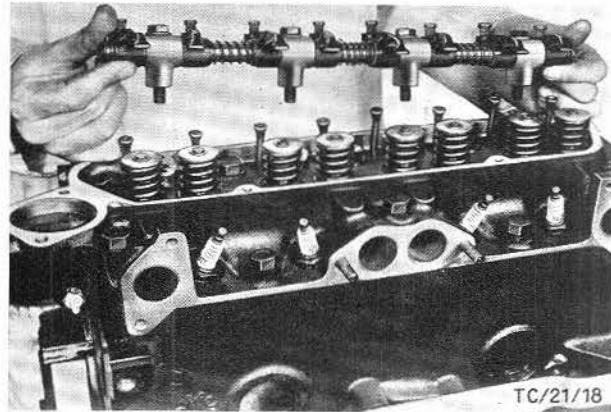
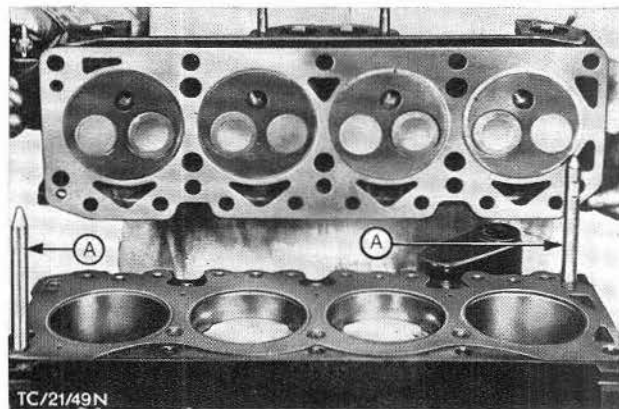
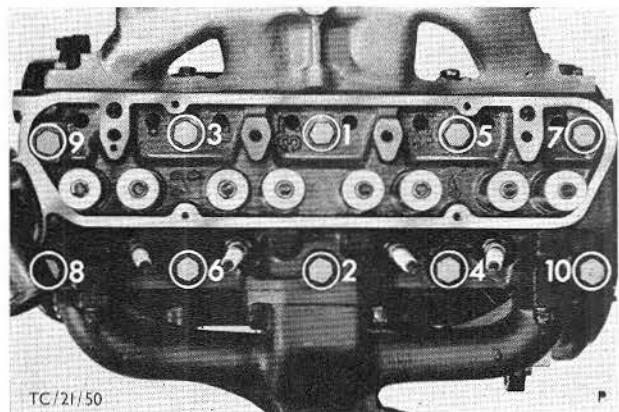

Fig. 67. Remove rocker shaft.
Fig. 68. Replace cylinder head.
Fig. 69. Cylinder head bolts, tightening sequence.
- Remove rocker cover (4 screws) and spark plugs. Detach rocker shaft (4 bolts), Fig. 67. Take out push rods and remove cylinder head (10 bolts), slackening bolts in reverse order to tightening (see tightening sequence in Fig. 69).
- Fit cylinder head, Fig. 68. Insert cylinder head bolts finger tight. Take out locating studs and replace them by the last two bolts. Cylinder head bolts should then be tightened to specified torque in three stages in order shown in Fig. 69.